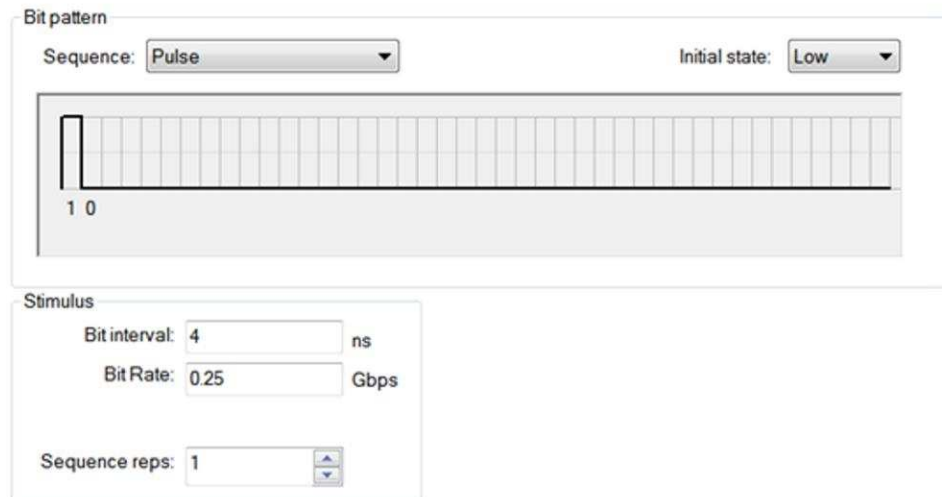

Figure 10. Stimulus Configuration
21. Create a Pulse by configuring the stimulus, as shown in Figure 10.